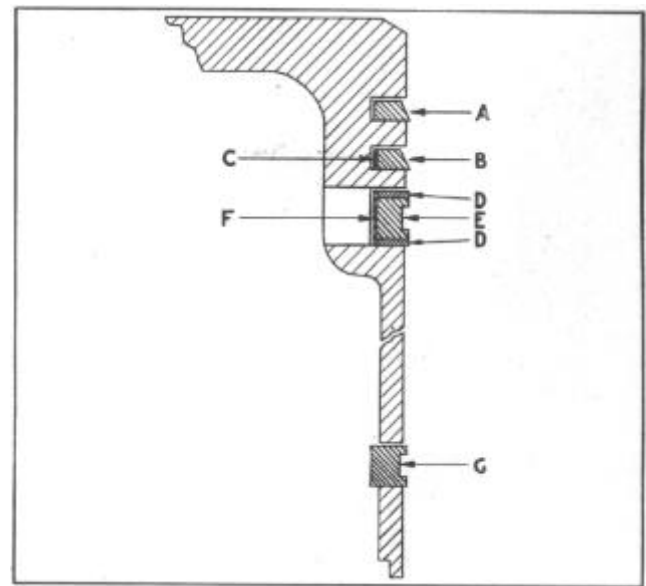

FIGURE 24.
The above ring kits differ from the production type in that the compression ring (B), Figure 24, in the No. 2 groove and oil ring (G) are provided with steel expanders. Also the oil ring (E) in the No. 3 groove is a 4-piece type employing a steel expander (F), a cast iron wall contacting element (E) and 2 steel wall contacting segments (D).